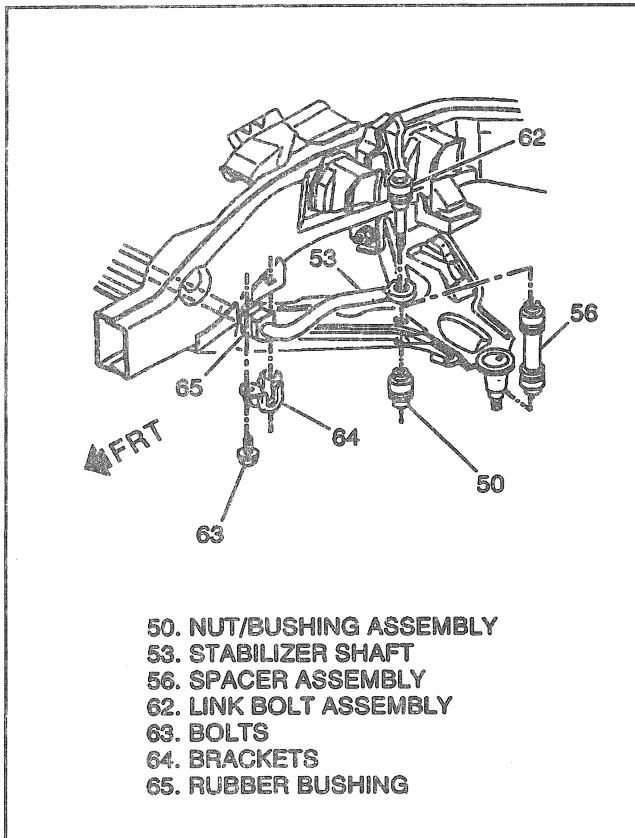

Figure 12—Stabilizer Bar Components
8. Stabilizer shaft components as follows (Figure 12):
- 5. Stabilizer shaft bushing (65) and bracket (64) and bolts (63) (Figure 12).